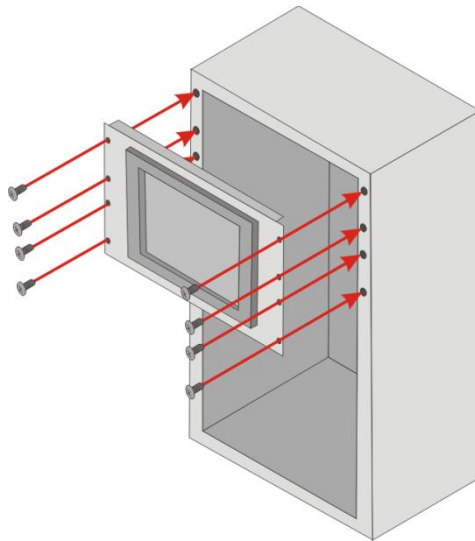

Figure 3-19: Install into a Rack/Cabinet
Step 10: Slide the PPC2-CWxxxA-ADLP Series with the attached rack/cabinet bracket into a rack or cabinet (**Figure 3-19**).
Step 11: Once the flat panel PC with the attached rack/cabinet bracket has been properly inserted into the rack or cabinet, secure the front of the rack/cabinet bracket to the front of the rack or cabinet (**Figure 3-19**).